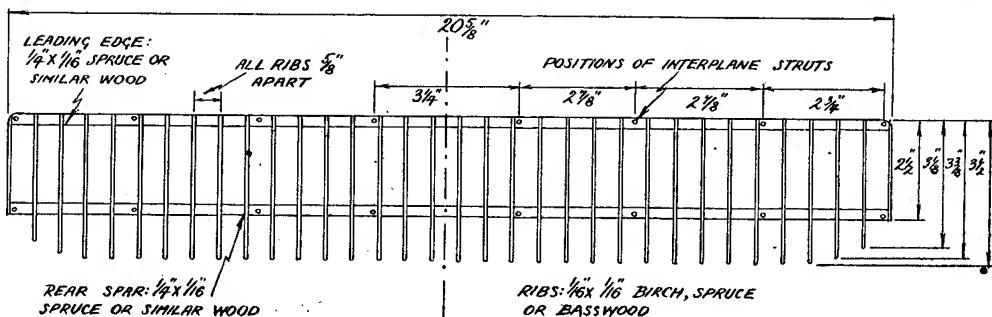
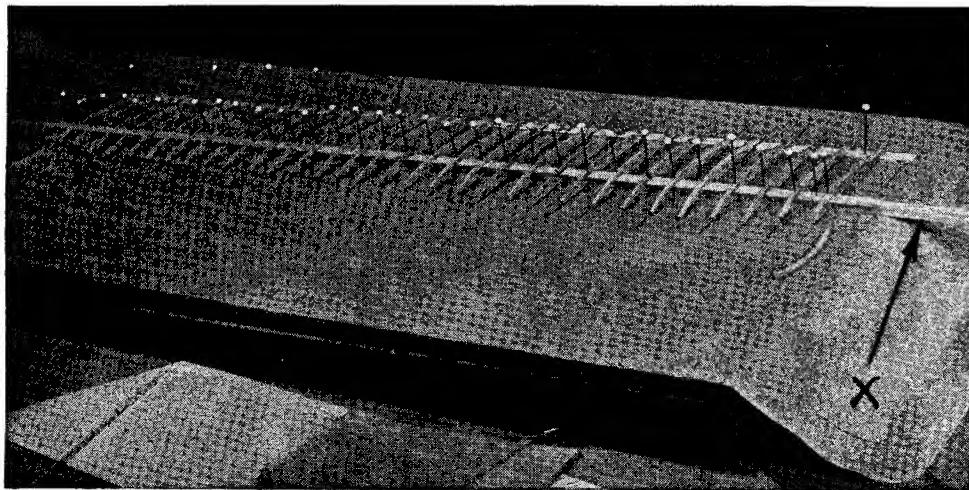
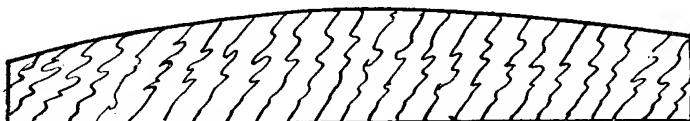

Fig. 5.
Fig. 6. Wing ribs pinned in position.
Fig. 9.
Fig. 5 shows a plan of the wing; both the top and bottom planes are exactly similar. As a start we must make a full-sized drawing upon a sheet of paper, and, in these economical times, I would recommend that you use the back of a strip of old wallpaper, a roll of which may usually be found in most homes. The drawing gives all the details necessary, so I will only outline the actual making. The photographs, Figs. 6, 7 and 8, show that the wing ribs are curved, so that the first step will be to cut the 68 ribs to length, and bend them in the steam from a kettle. A bending template should be cut from a piece of thick cardboard, the rib being thoroughly saturated in the steam, and quickly manipulated to conform to the template. Fig. 9 shows the correct curve of the template.
Having obtained the ribs, the leading edge should be pinned on to the drawing on a board. The main spar, which lies near the trailing edge, must also be fixed to the board, but must be raised by jacking up with a length of $\frac{1}{4}$ -in. $\times \frac{1}{4}$ -in. wood, as shown in Fig. 6. This packing piece is marked (X) in the picture, and is, of course, not actually part of the wing structure. Now cement the ribs across the spars, as is being done in Fig. 6, and when the cement is set, re-